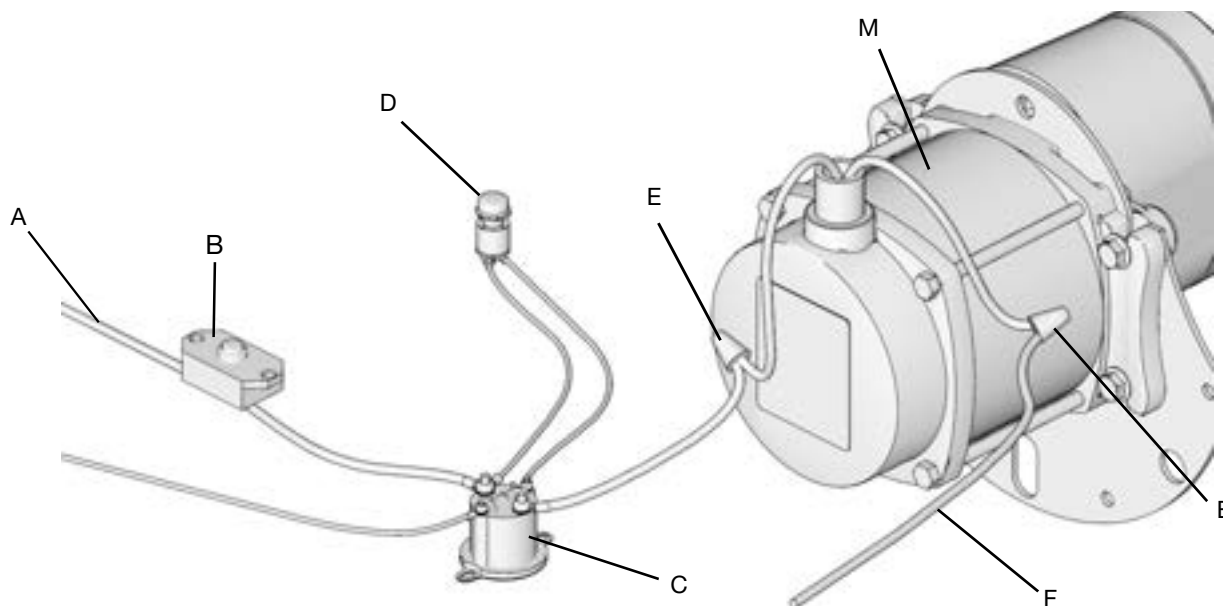
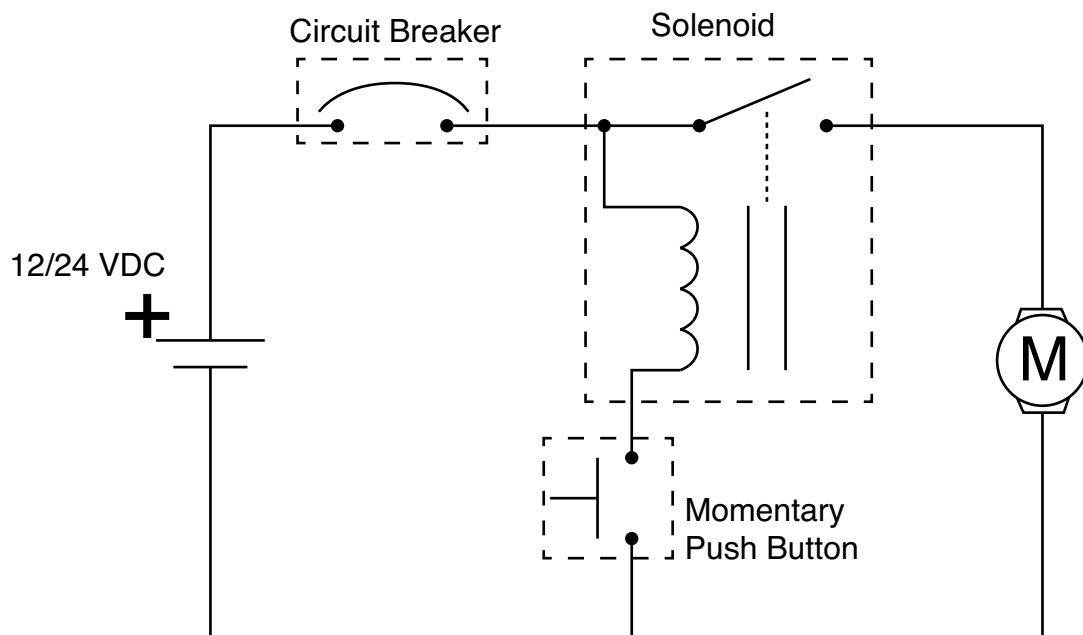

FIG. 8
FIG. 9
2. Follow **Wiring Diagram** (FIG. 8) and **Wiring Schematic** (FIG. 9).